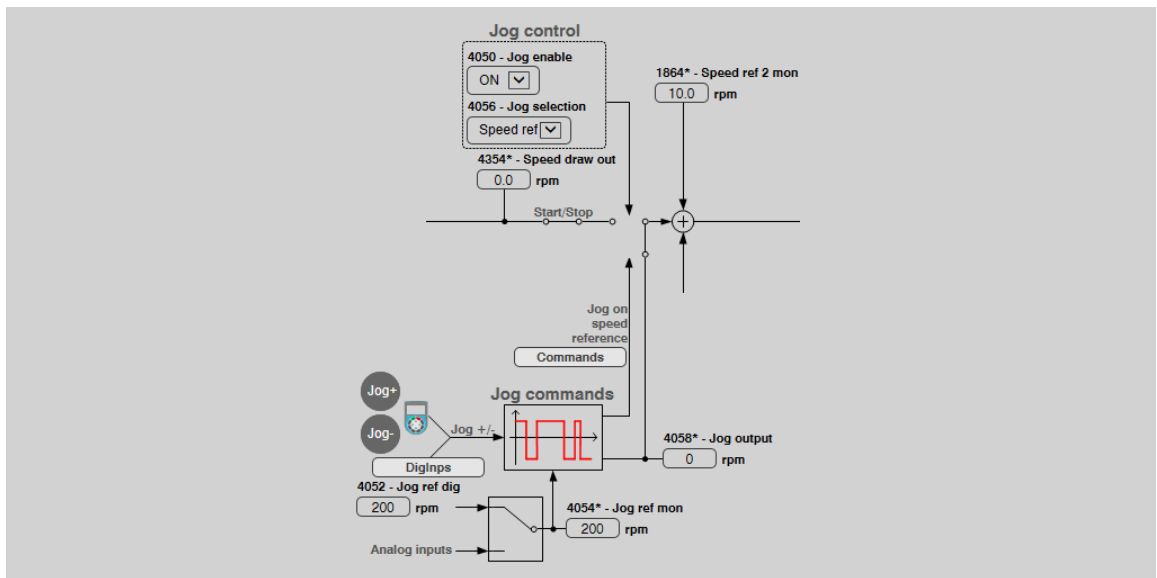

Figure 6-83: Jog reference management with Jog Selection = Speed Ref
If parameter IPA 4056-**Jog selection** is set to **Speed ref**, the **Jog output** acts directly after the ramp function, bypassing all previous contributions (**Speed ref 1 mon** and **Speed draw out**) (see Figure 6-83). In this case, the **Jog output** is summed with the speed reference **Speed ref 2 mon** (see Figure 6-83) and acts on **Speed reference**.